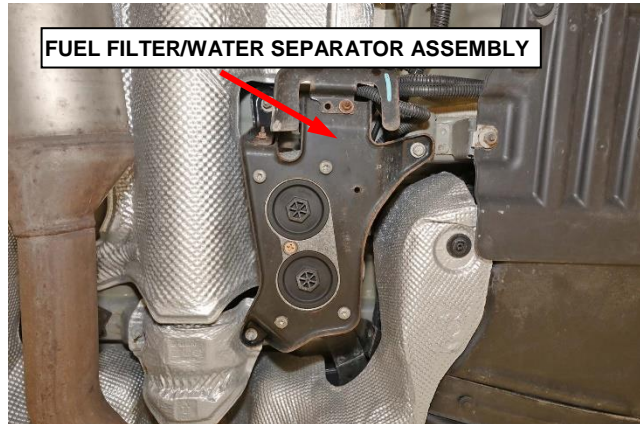

Figure 29 – Fuel Filter/Water Separator Assembly
- 56. Remove the fuel filter/water separator assembly mounting bolts, and hang the filter assembly to the side (Figure 29).